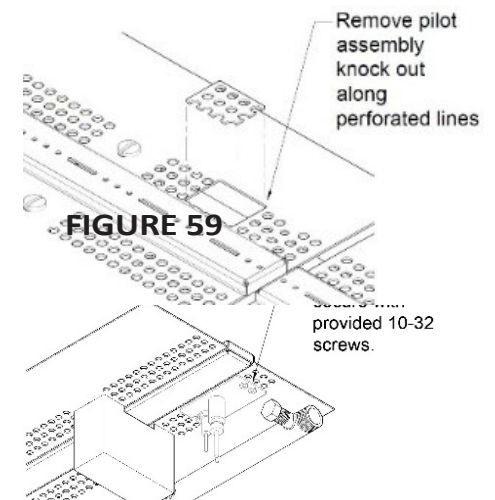

FIGURE 59
10. Before replacing the removed burner top from **step 4**, locate the perforated rectangular section in the pan. Gently remove this section along the perforations using a screwdriver or pliers. **Figure 59**